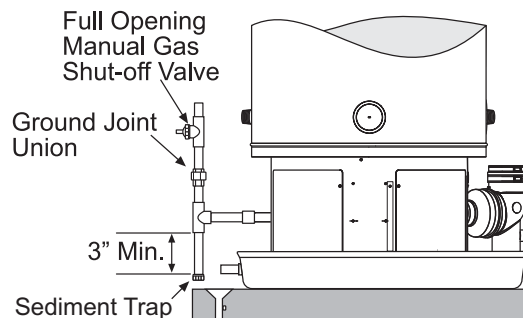

Figure 37
Follow the instructions below and reference Figure 37 for gas piping installation.
4. Install a ground union between the water heater and the manual shut-off valve. This is to allow easy servicing. See Figure 37 below.
1. For test pressures exceeding 1/2 psi (3.45 kPa) disconnect the water heater and its Main Gas Shutoff Valve from the gas supply piping system during testing, see Figure 37 on page 30. The gas supply line must be capped when disconnected from the water heater.